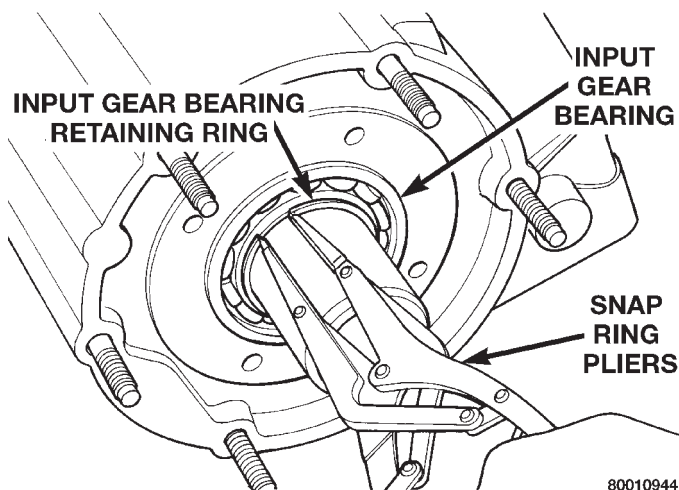

Fig. 33 Removing Input Gear Retaining Ring
(3) Remove front bearing retainer seal. Tap seal out with drift and hammer.
(4) Remove input gear retaining ring with heavy duty snap-ring pliers (Fig. 33)